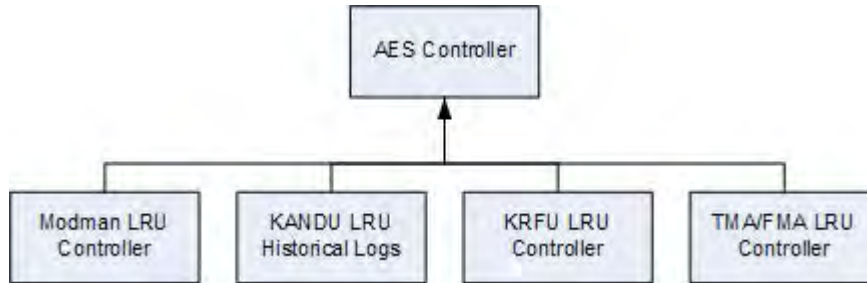

Figure 3-22. Bite Hierarchy
- (c) The BITE system divides the responsibility for BITE and historical logs in a BITE hierarchy as illustrated in Figure 3-22.